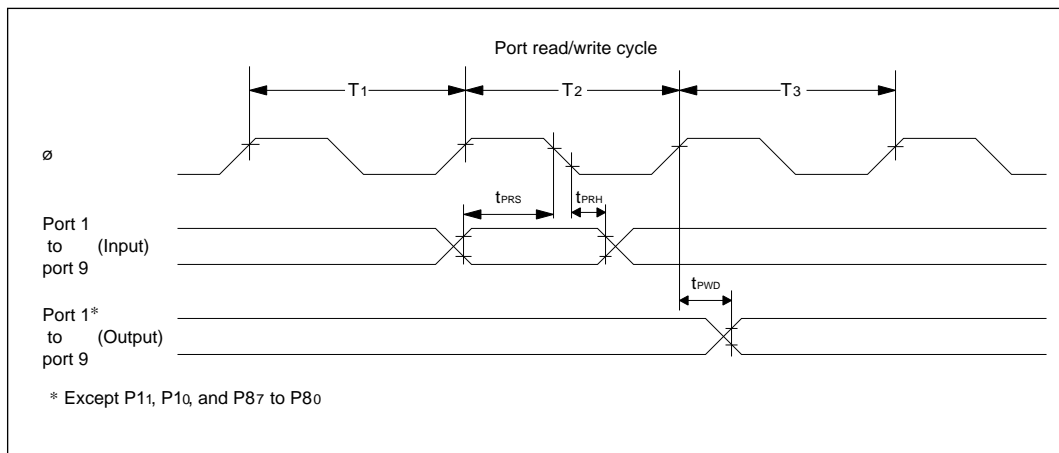

Figure 20-13 I/O Port Input/Output Timing
20.3.4 I/O Port Timing	Figure 20-13